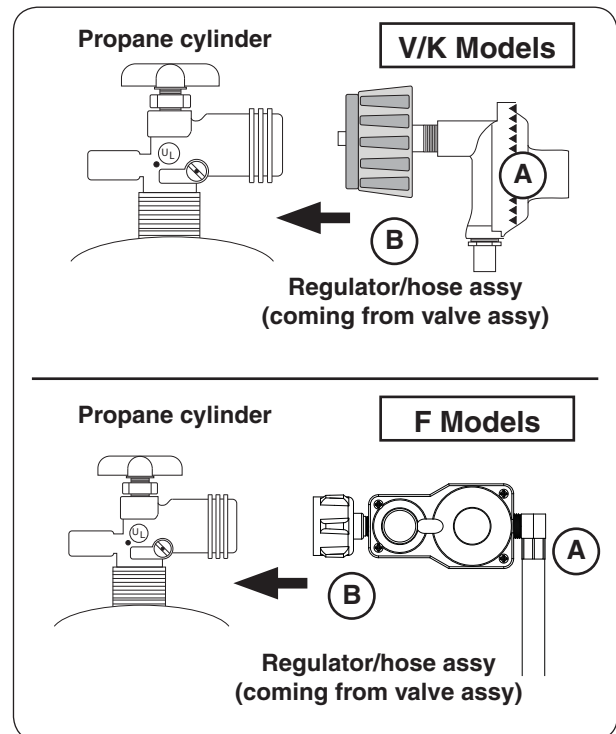

Fig. 20-1 Connecting to an L.P. cylinder
3. Attach the regulator end of the hose assembly to a propane cylinder (not included) and tighten (see Fig. 20-1).